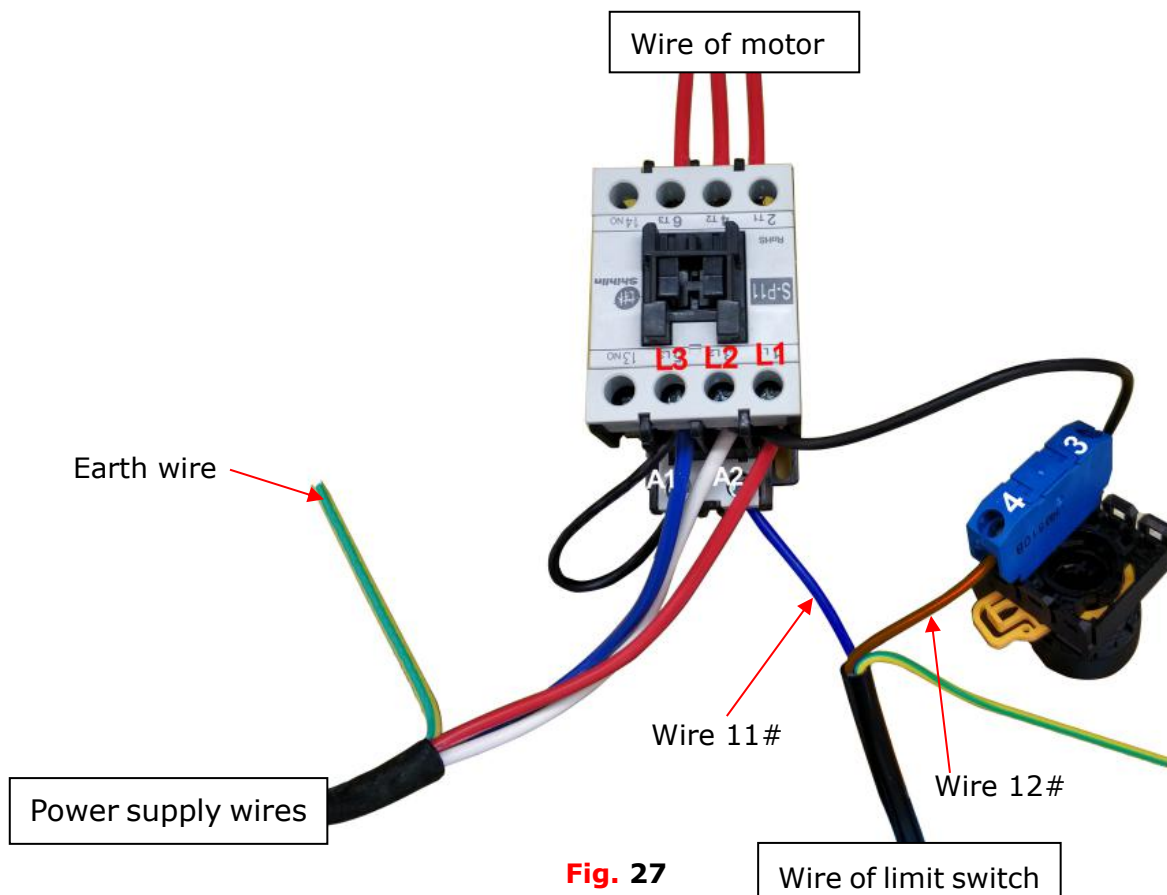

Fig. 27
3. Connection step (See Fig.27)